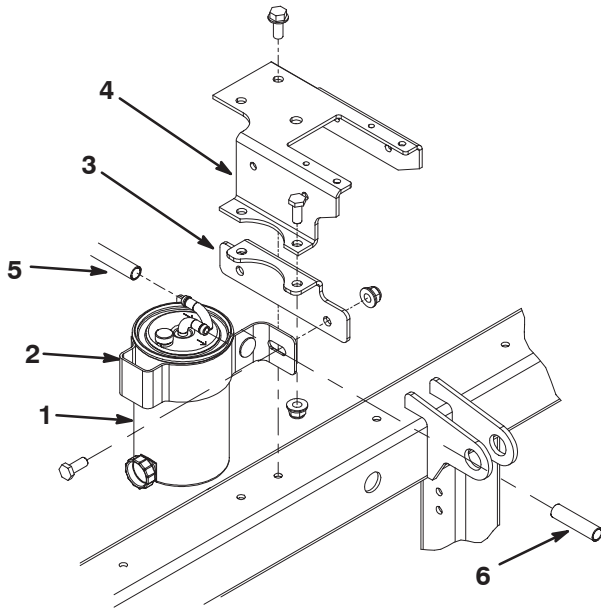

Figure 3
4. Insert the new fuel filter into the mounting band (Fig. 3). Make sure filter is all the way down into the band and tighten the carriage bolt and nut. Position the filter in the mounting band as shown in figure 3.
5. Secure the filter mounting band to the new filter bracket with (2) screws and locknuts (Fig. 3).
6. Secure the filter bracket to the frame bracket with (2) screws and locknuts (Fig. 3).